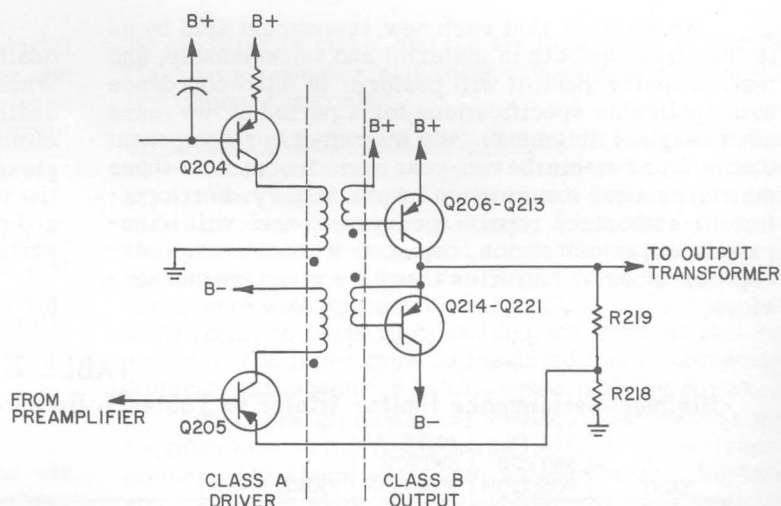

Figure 4-5. Power-amplifier circuit.
4.3.4 POWER-AMPLIFIER STAGE. See Figure 4-5. A two-transistor, Class-A, driver stage is transformer coupled to the output stage. The high collector impedance of the driver, Q205, provides a high impedance to drive the Class-B output stage, thus utilizing the relatively linear current-to-current transfer ratio of the output transistors. This produces a minimum of crossover distortion without the use of temperature-sensitive biasing networks.¹